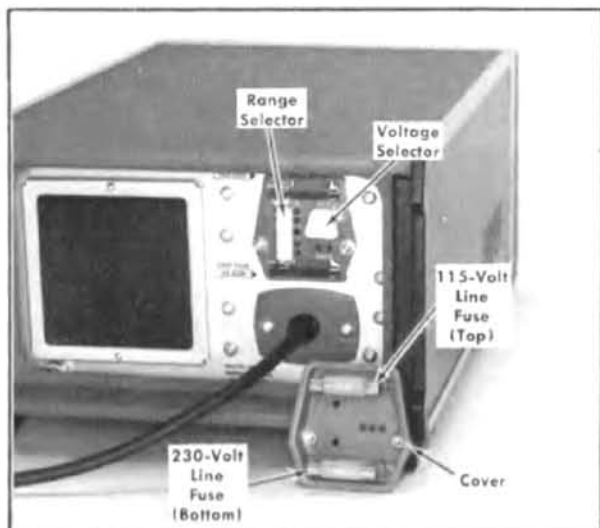

Fig. 2-2. Line Voltage Selector assembly on the rear panel (shown with cover removed).
3. To convert from 115-volt to 230-volt line voltage or vice versa, pull out the Voltage Selector switch bar (see Fig. 2-2); turn it 180° and plug it back into the remaining holes. Change the line-cord power plug to match the power-source receptacle or use a 115-to-230-volt adapter.
4. To change regulating ranges, pull out the Range Selector switch bar (see Fig. 2-2) slide it to the desired position and plug it back in. Select a range which is centered about the average line voltage to which the instrument is to be connected (see Table 2-1).